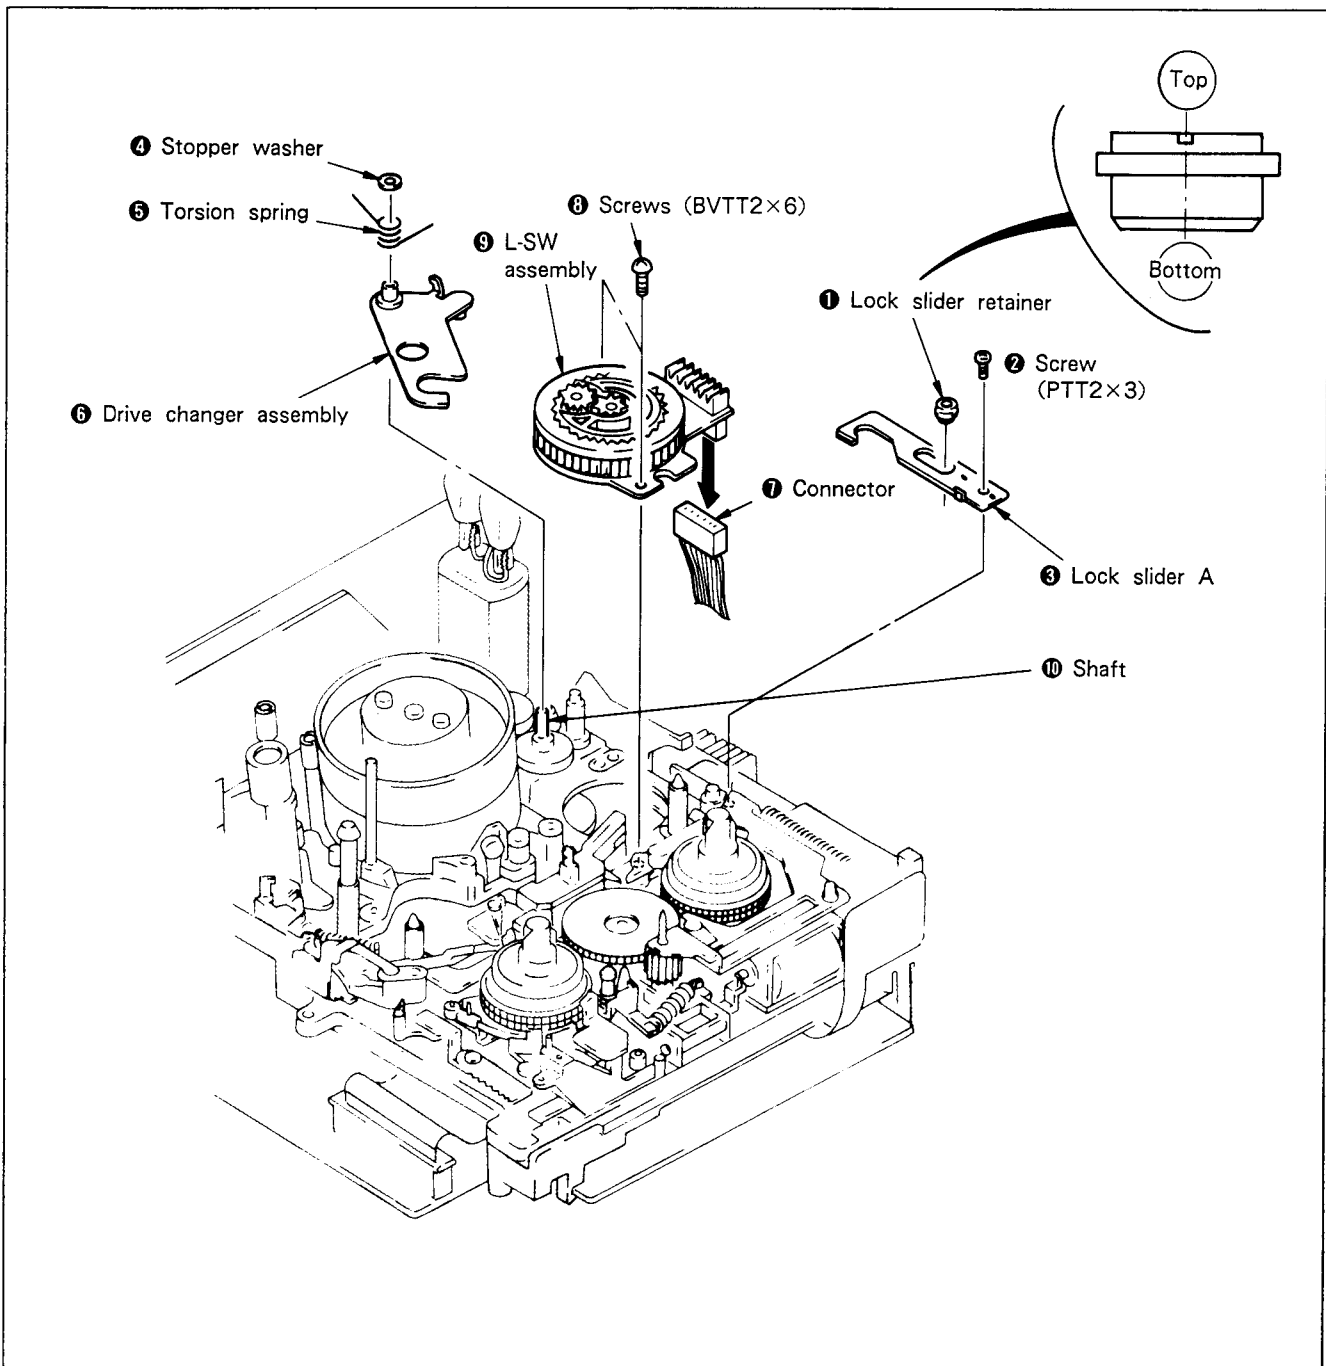

Fig. 7-33.
#### 1. Removal (See Fig. 7-33.)
## 2. Mounting (See Fig. 7-33)
- 7) Mount the drive changer assembly ⑥. (See Fig. 7-33.)
- 8) Hook the torsion spring ① and fix the stopper washer ④.
- 9) Operate the mode selector and confirm that the L-SW assembly ⑨ rotates.
- 10) Mount lock slider A ③ and tighten with screw ②.
- 11) Mount lock slider retainer ①. (See Fig. 7-33.)